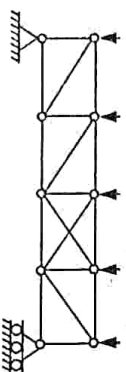

Fig. 1.7.1. Indeterminate truss.
1. For the truss as shown in Fig. 1.7.1, we have